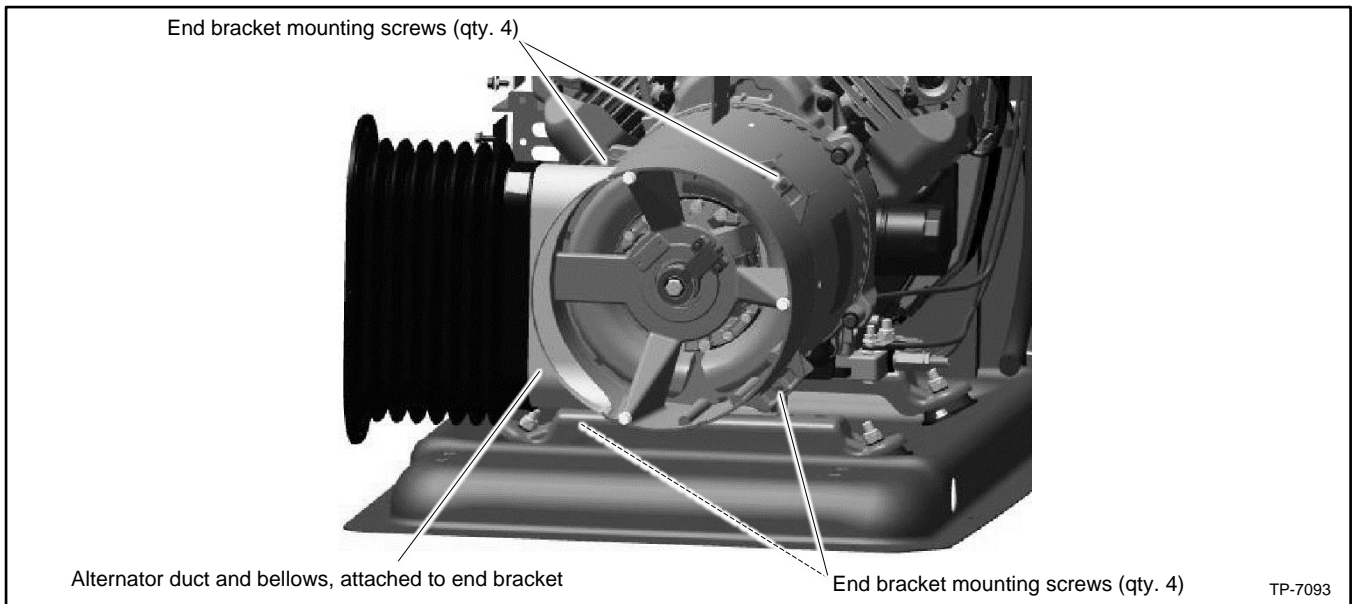

Figure 125 End Bracket Mounting Screws
29. Remove the end bracket assembly by removing four screws shown in Figure 125.